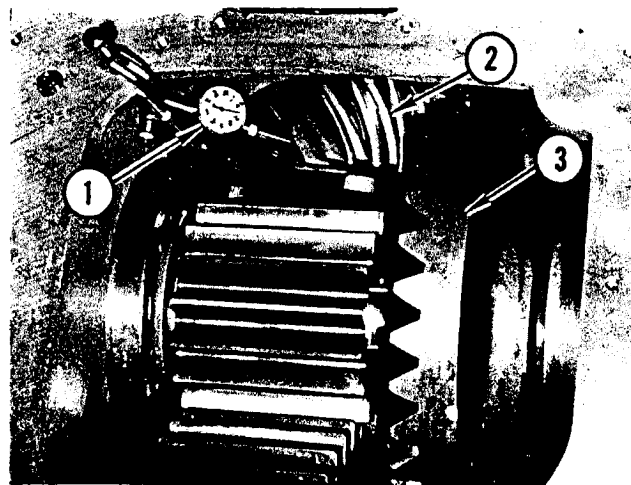

FIGURE 101. ADJUSTING PINION AND GEAR BACKLASH
Refer to Figure 101. Install a dial indicator (1) in such a way as to get a reading from either the output pinion (2) or spiral bevel gear (3). The backlash should be .010" to .014". Make adjustment by moving shims from R.H. bearing cage to L.H. bearing cage.